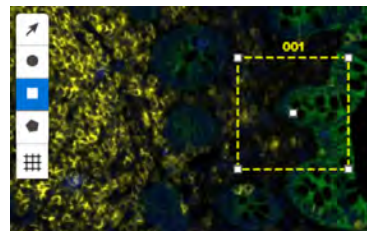

Figure 30: Scan Workspace square ROI button
1. **Select a shape button (circle or rectangle)** from the Scan Workspace (see Figure 30).